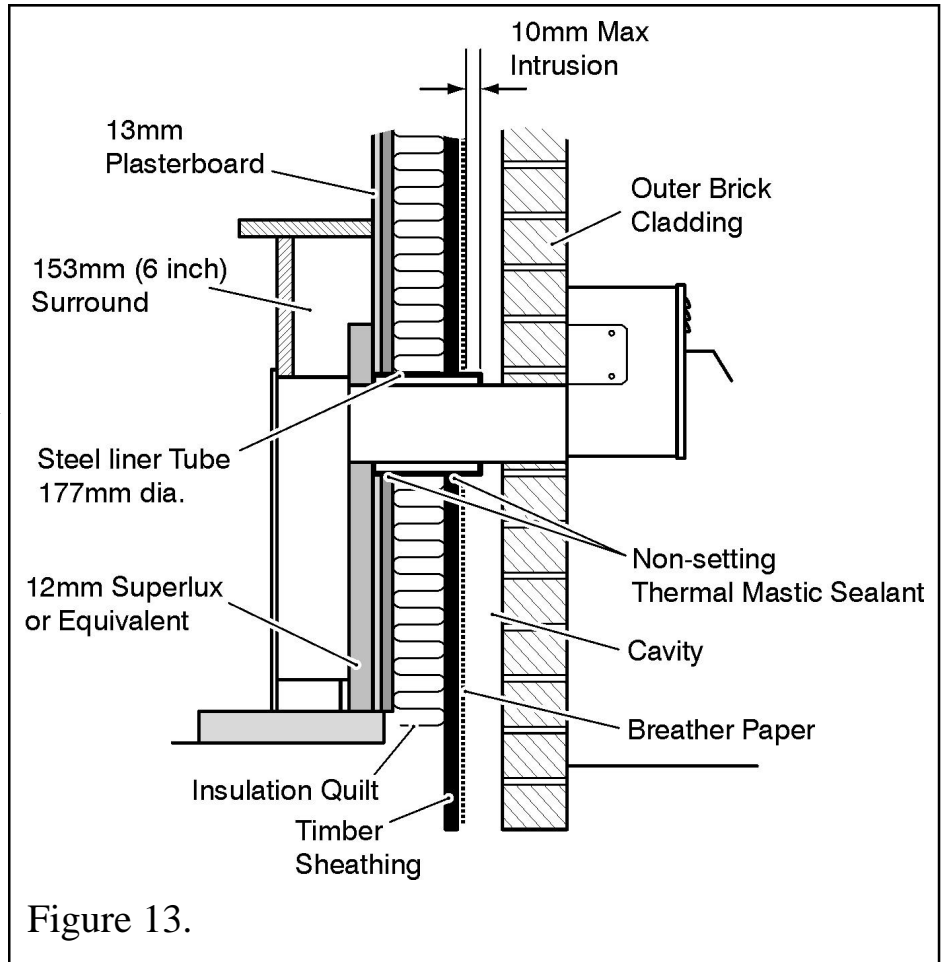

Figure 13.
7.5 Timber frame building. Firebox in front of wall (See figure 13).
1. Building regulations require that the outer surface of the flue tube and terminal must not be closer than 25mm to combustible material and must be lined with steel sleeve not less than 0.5mm thick (See figure 13). The sleeve can be made by coiling a piece of sheet steel to between 125mm & 127mm outside dia. and fitting it to the combustible parts of the construction.
9. The area immediately behind the firebox must be separated from the combustible elements of the inner wall by 25mm thickness of non combustible material. This can consist of the usual 13mm plasterboard wall lining plus 12mm of “Superlux” or similar non-combustible material (See figure 13).